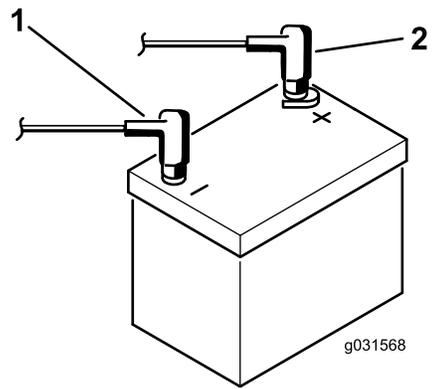

Figure 4
7. Install the positive cable (red) to the positive (+) terminal and the negative cable (black) to the negative (-) terminal of the battery and secure them with the bolts and nuts (Figure 4).